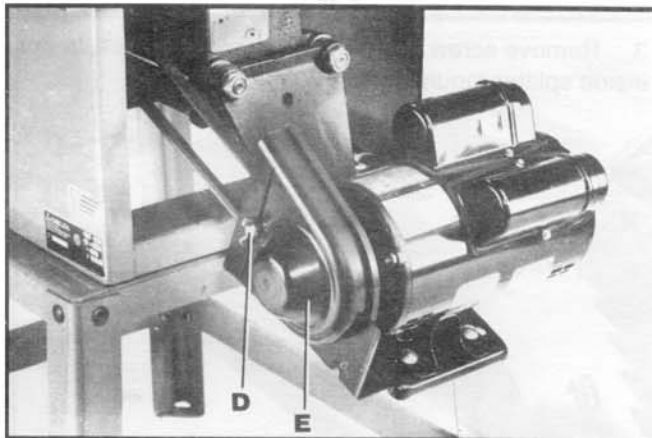

Fig. 17
9. Assemble the outer cover (E) Fig. 17, of the belt and pulley guard assembly, which was removed in **STEP 3**, and fasten with external tooth lockwasher and wing nut (D). **IMPORTANT:** Make certain the outer cover does not interfere with the drive belt and the motor pulley.